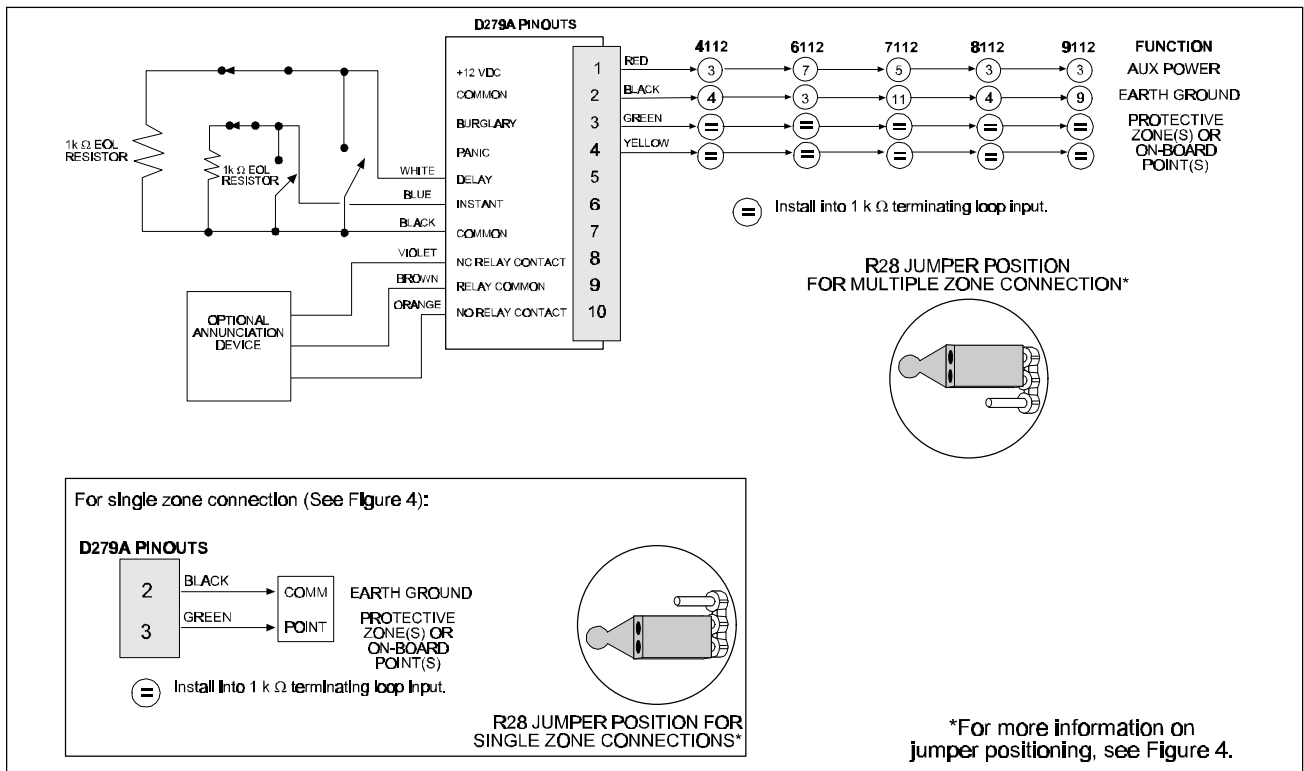

Figure 3: Wiring the D279A
2. Connect the D279A to the panel and protective zones or points as shown in Figure 3.